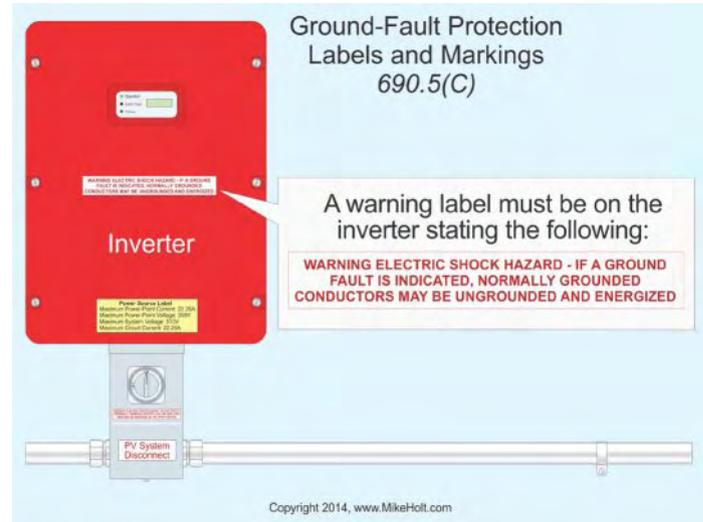

Figure 690–26
**(A) Ground-Fault Detection and Interruption (GFDI).** The ground fault protection must:
- (1) Be capable of detecting a ground fault in the PV array dc current-carrying conductors and components, including any intentionally grounded conductors,
- (2) Interrupt the flow of fault current,
- (3) Provide an indication of the fault, and,
- (4) Be listed for providing PV ground-fault protection.
**(C) Labels and Markings.** A warning label that isn't handwritten and is of sufficient durability to withstand the environment involved, must be permanently affixed [110.21(B)] on the utility-interactive inverter at a visible location at PV system batteries stating the following: Figure 690–26